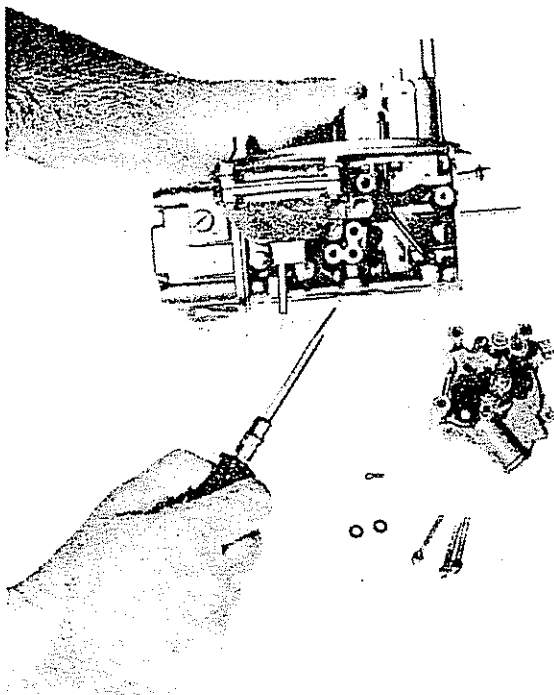

FIG. 25 — REMOVAL OR INSTALLATION OF INTERGAL AUTOMATIC CHOKE
1. Remove integral choke assembly and fast idle cam (if used) (Fig. 25).